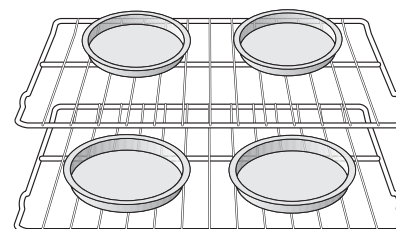

Figure 15: Baking on multiple levels
- For best results when baking cakes or cookies using two oven racks, place racks in positions 3 and 5 (See Figure 15).